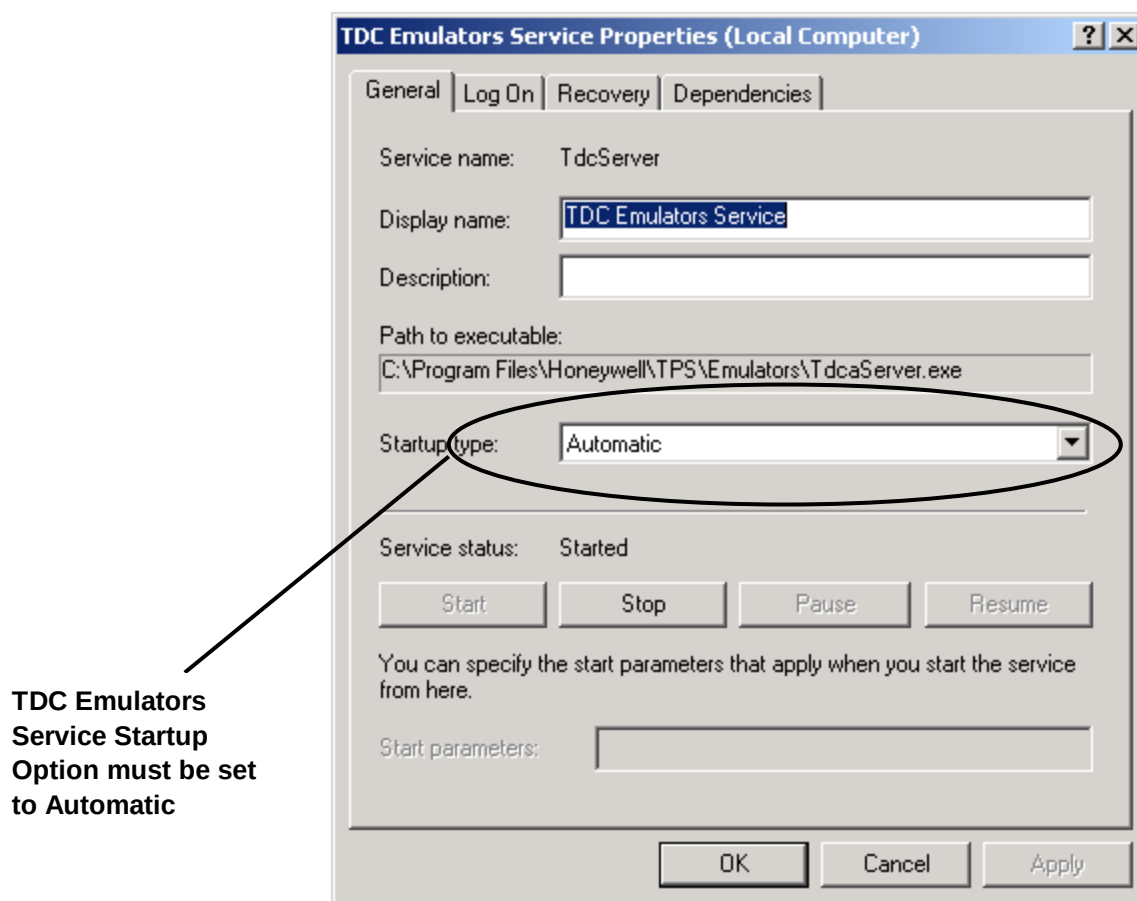

Figure 4.2.2-4 Automatic Startup option on TDC Emulators Service
2.3.18	A message box appears indicating that the service is being started. This will take about 10-15 seconds. The Services display should appear as in Figure 4.2.2-1 previously.